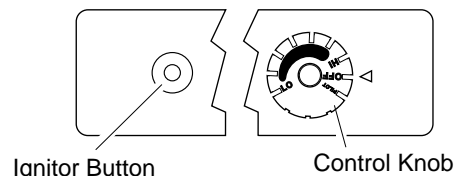

Figure 28 - Control Knob and Ignitor Button
4. Wait five (5) minutes to clear out any gas. Then smell for gas, including near the floor. If you smell gas, STOP! Follow "B" in the safety information, page 15. If you don't smell gas, go to the next step.
5. Turn control knob counterclockwise to the PILOT position. Press in control knob for five (5) seconds (see Figure 28).